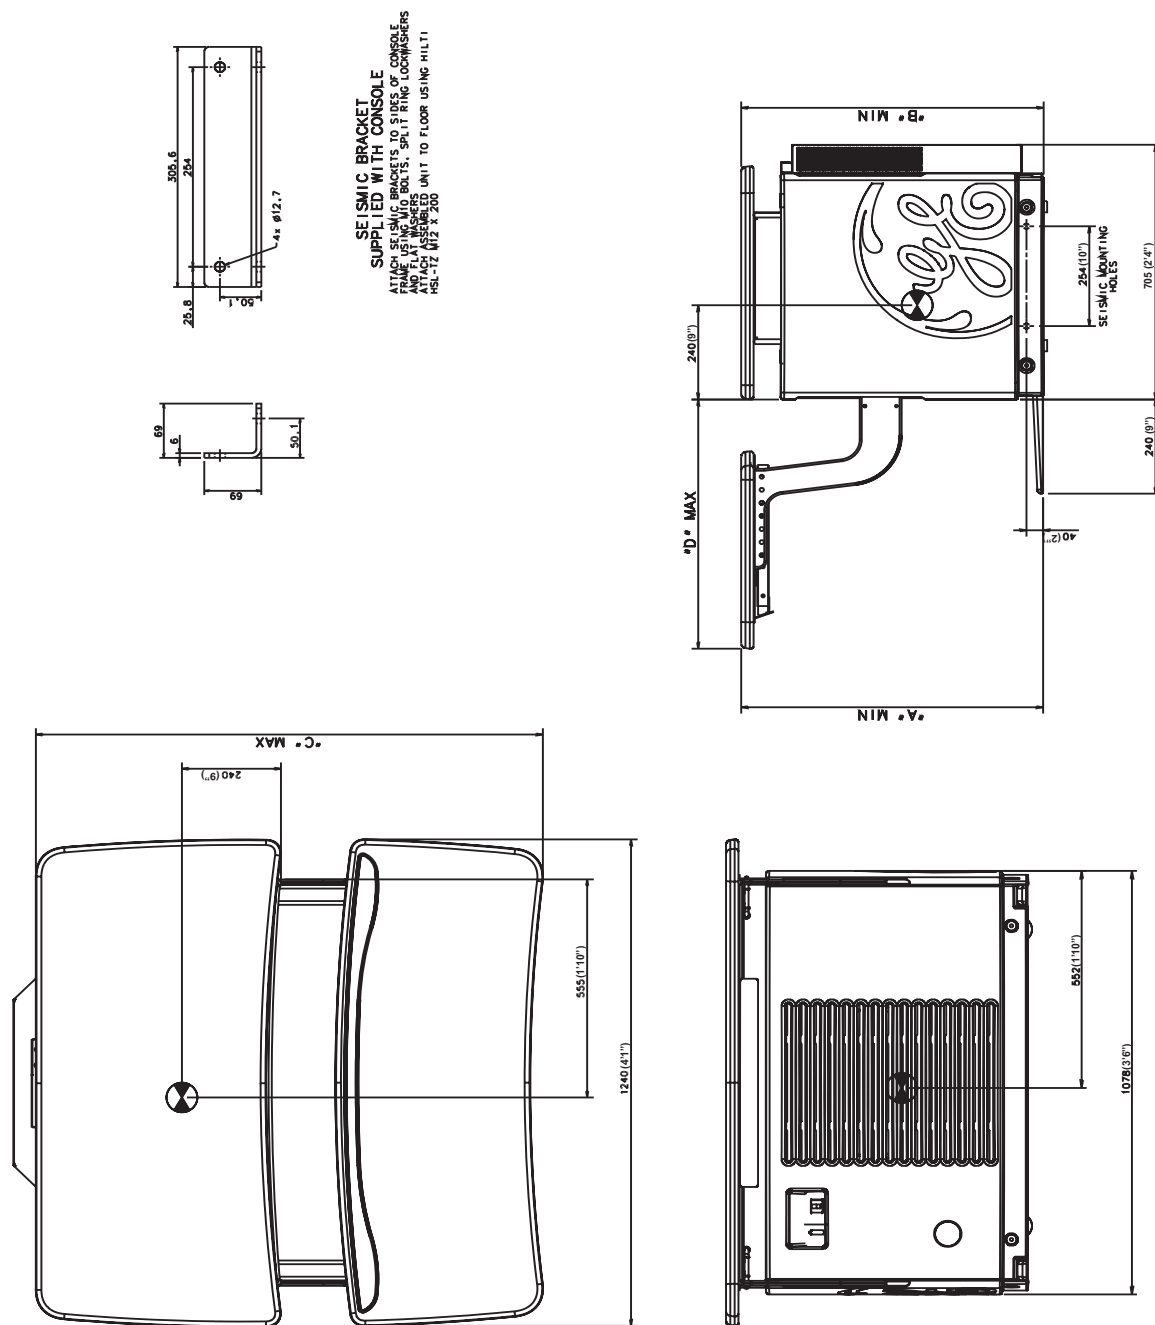

Figure 6-8 Operator's Console
- Operator's Console/Computer: Figure 6-8